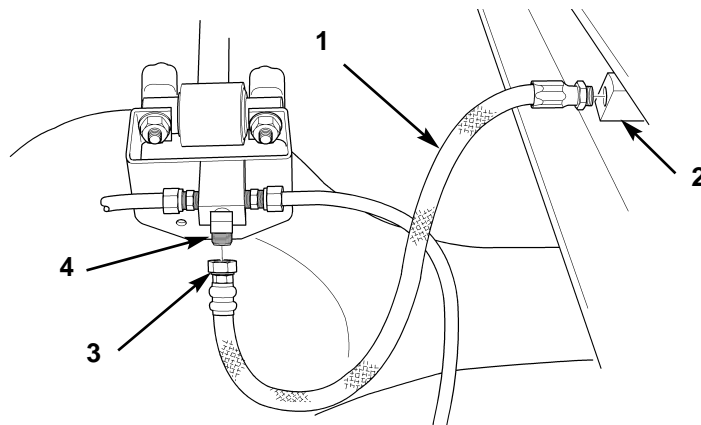

Figure 1. Removing Hose Assembly.
1. Loosen swivel nut (figure 1, item 3), and disconnect hose assembly (figure 1, item 1) from flare fitting (figure 1, item 4).
2. Loosen opposite end of hose assembly (figure 1, item 1), and remove hose assembly (figure 1, item 1) from NPT fitting (figure 1, item 2).